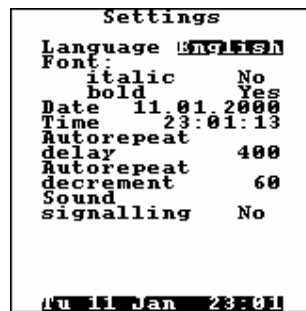

Fig. 11
- The SETTINGS mode can be got from the initial splashscreen. To enter SETTINGS mode press and release the SHIFT+UP keys. SETTINGS menu appears on the Display (Fig. 11).
2. Enter SETTINGS operating mode by pressing the SHIFT+UP keys. SETTINGS mode menu appears on the Display (Fig. 11).